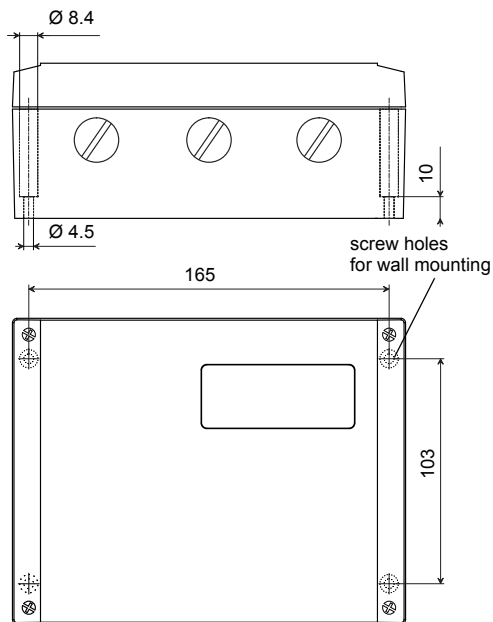
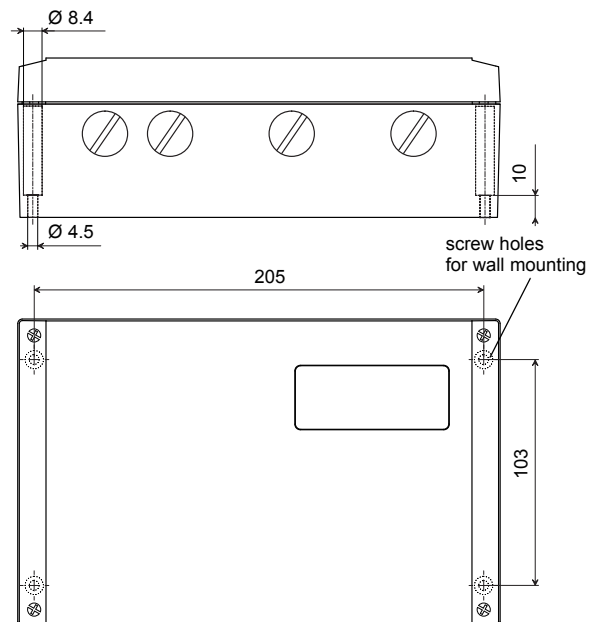

Fig. 5.1: FLUXUS ADM 5107 (dimensions in mm)
Fig. 5.2: FLUXUS ADM 5207 (dimensions in mm)
- At the chosen location, drill 4 holes in the wall (see Fig. 5.1 or Fig. 5.2).